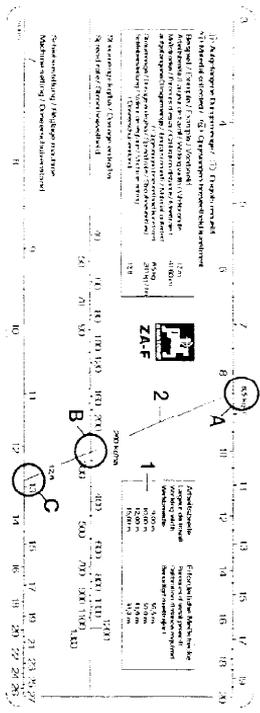

Fig. 10
- From the table (Fig. 10/1) of the nomograph (Fig. 10) read off the required measuring distance (**41,6m**) for the working width (12 m). Accurately measure out the given distance and mark the beginning and the end point of the calibration distance on the field.
- For the collected fertiliser amount (**8,5 kg**) **look for the figure on the upper scale (Fig. 10/A)** and for the desired spread rate (**260 kg/ha**) find the figure on the middle scale (**Fig. 10/B**). Now connect the two points by a straight line (Fig. 10/2) [e.g. by a rule, twine etc.], so that its downward extension shows on the lower scale (**Fig. 10/C**) the required shutter slide position „**12,8**".